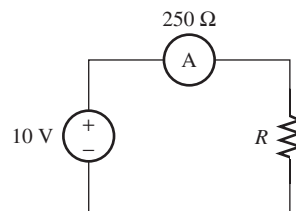

FIGURE P14.4 Circuit for Problem 14.4.
- 14.4 (H) The ammeter with a $250 \, \Omega$ resistance in Figure P14.4 reads a minimum current at 17.7 mA and a maximum current at 18.7 mA with a voltage source of 10 V.